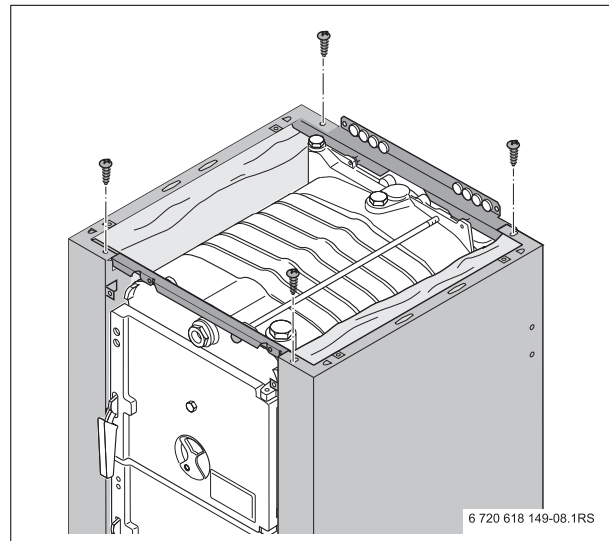

Fig. 13 Fitting the side panels
- Position and tighten the front and rear tie-bars (→ Fig. 13).